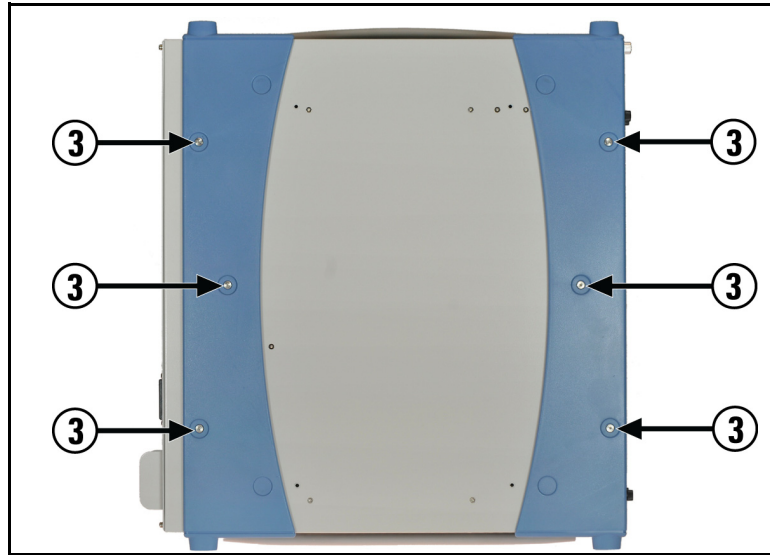

Figure 2 . Removing the Chassis Bumpers
- 3 Remove the three #1 Phillips flat head screws from the top of each bumper. See Figure 2.